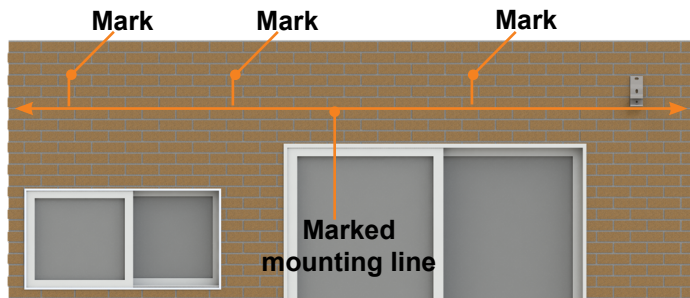

Fig.31
6. Once the location of the rightmost "F" bracket and mounting holes are marked, measure along the mounting line and mark the center of each proposed location of the additional "F" brackets, adjusting their positions as needed to ensure even spacing across the entire length of the awning while avoiding mounting to joints in the bricks (Fig. 31).